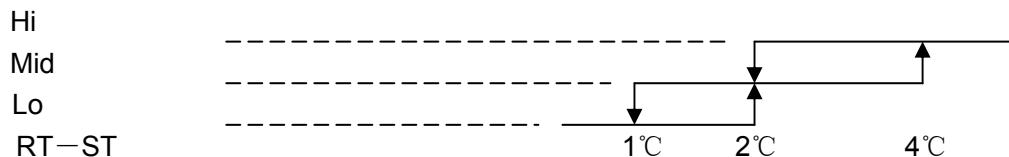

Figure 1 Cooling automatic airflow
- b. Indoor fan motor's the automatic airflow speed control Indoor fan motor can operate by automatic, as shown in Figure 1: